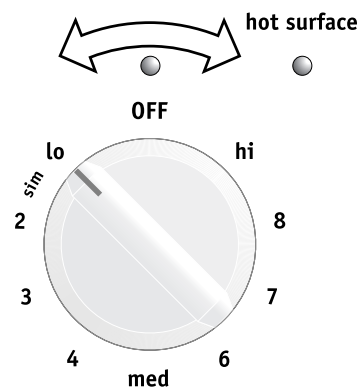

Fig. 2
2. Push in and turn the surface control knob in either direction (Fig. 2) to the desired setting (Refer to the **Suggested radiant surface element settings table** Fig. 1).